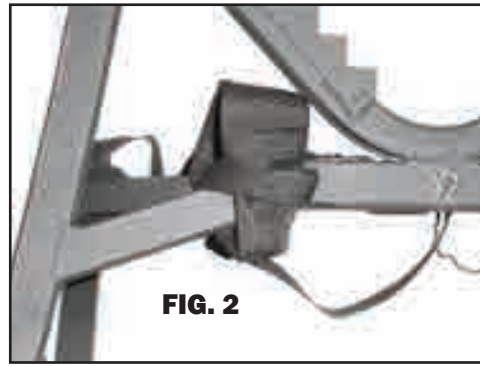

FIG. 2
2. Insert the other end of the strap back through the loop and pull tight. **(See Fig. 2)**
2. **STAND AND LIFT** up on Seat Platform to adjust it to a comfortable level. Push down to set Seat Platform in raised position. Raise your harness tether to take up the slack. **FIG. 2**